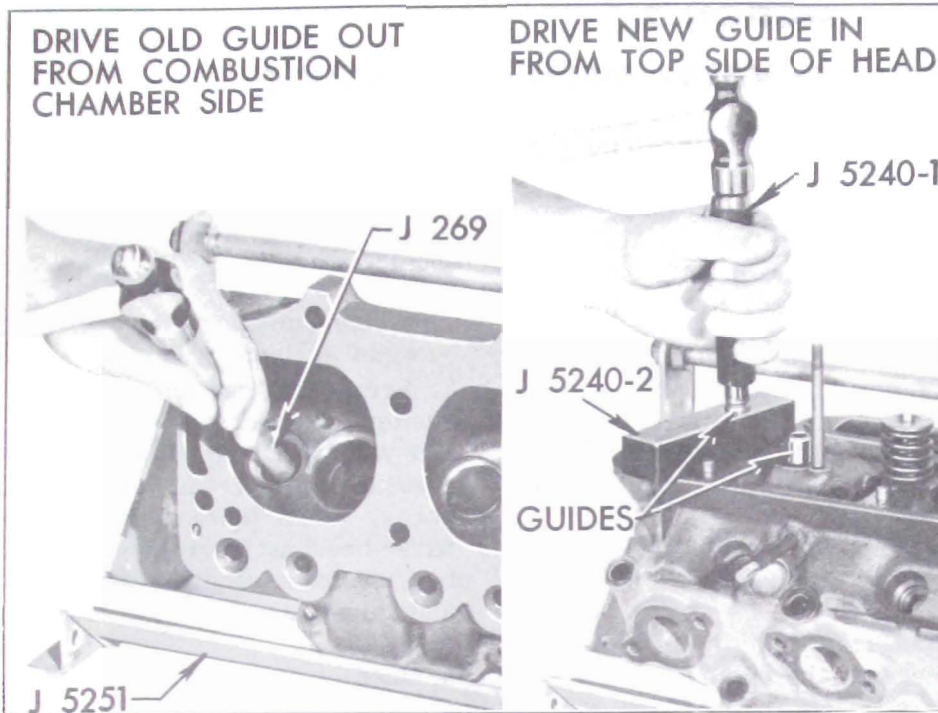

Figure 2-16—Removing and Installing Valve Guide
1. Place cylinder head on Holding Fixture J-5251 with valve springs straight up. Compress valve springs with fixture lever and remove the spring cap keys, then remove the springs and caps. See Figure 2-16.
guides out from combustion chamber side using Driver J-269. See Figure 2-16.
(c) Place Valve Guide Aligner J-5240-2 over guide hole in head, insert the valve guide either end down, and use Installer J-5240-1 and hammer to drive guide down into head until the shoulder on the installer contacts top of the aligner. See Figure 2-16. Repeat for each guide.